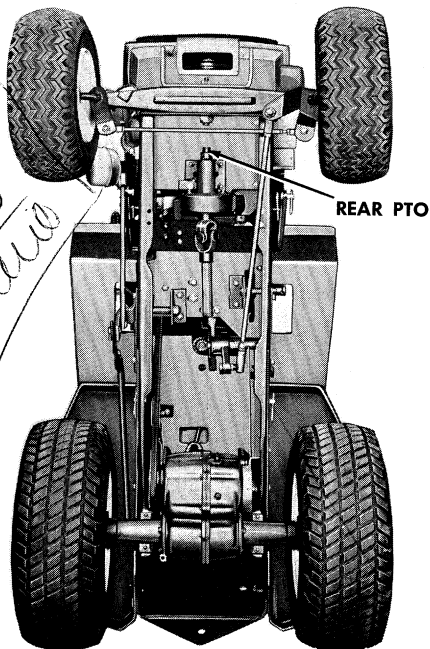

FIGURE 13. REAR PTO SHOWN WITH DRIVE SHAFT ATTACHED
The rear PTO (see Figure 13) is located under the tractor and is used to operate the grass cutting deck and the rotary tiller.
6. Place the PTO Lever in the OFF position. See Figure 13.